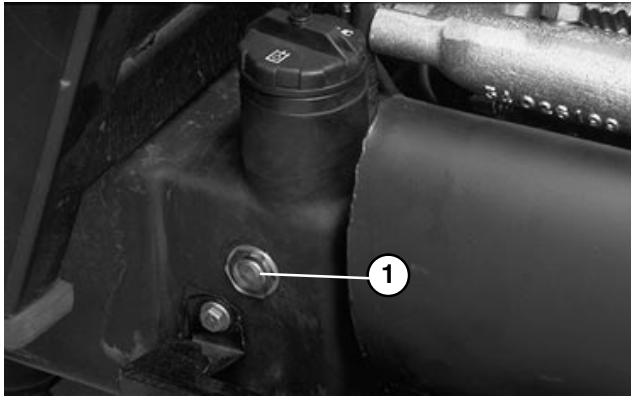

Figure 46
5. With wing decks raised, center deck down and oil warm, look into sight gauge (Fig. 46). If hydraulic oil is not visible, add enough oil to raise level to middle (maximum) of sight gauge. To prevent over filling, do not fill if oil is cold. **DO NOT OVER FILL.**